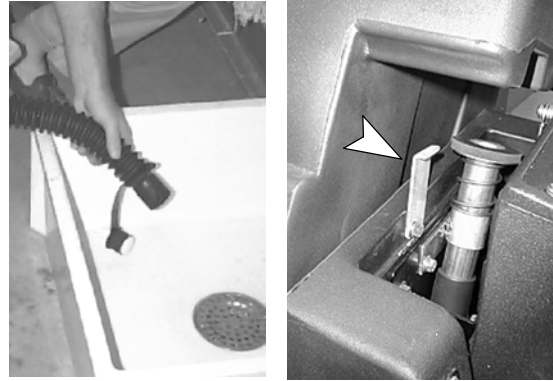

FIG. 16
1. Remove recovery tank drain hose from holder, position hose over floor drain and twist off cap. To completely drain recovery tank, hinge open tank sideways and flip up tank support stand to rest tank on (Figure 16).